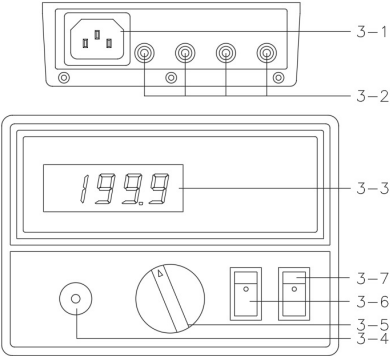

Fig. 1
- 1) Rotate the " Power off/Range Rotary Switch " (3-5, Fig. 1) to the convenient & right range 200 m ohm, 2000 m ohm, 20 ohm, 200 ohm, 2000 ohm.
- b. Rotate the " Zero Adjust Knob " (3-4, Fig. 1) until the display reading values show the zero values.